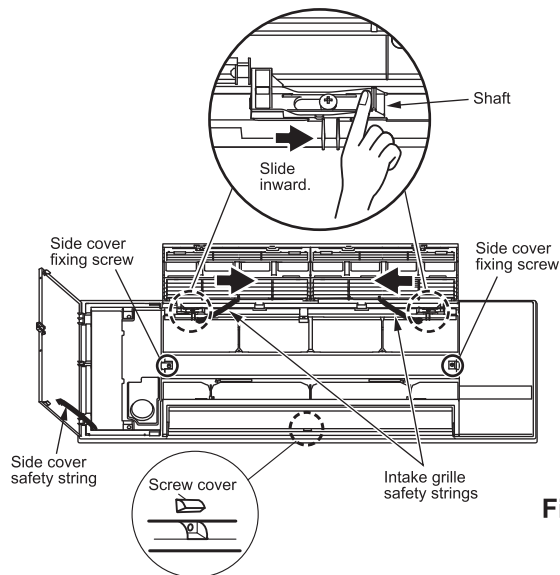

Fig. 3
Slide the 2 shafts inward and remove the intake grille from the shafts. (Fig. 3)
Remove the safety strings from the grille and remove the intake grille. (Fig. 3)
Open the side covers L/R and remove the safety strings from the grille, then remove the side covers. (Fig. 3)
- Remove the screw cover at the center of the grille. (Fig. 3)